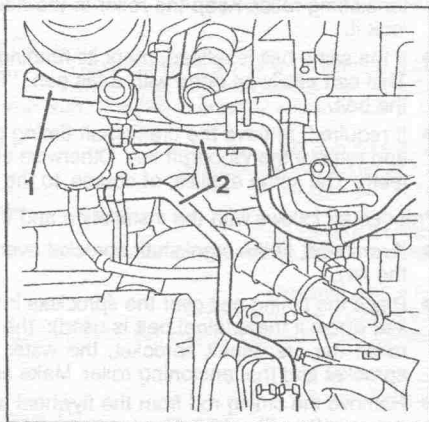

Fig. 1.63. — Remove the support (1) and disconnect the hose (2).
- Refer to Fig. 1.63 and remove the support (1). Use suitable clamps to clamp off the hose (2) and disconnect it from the engine.